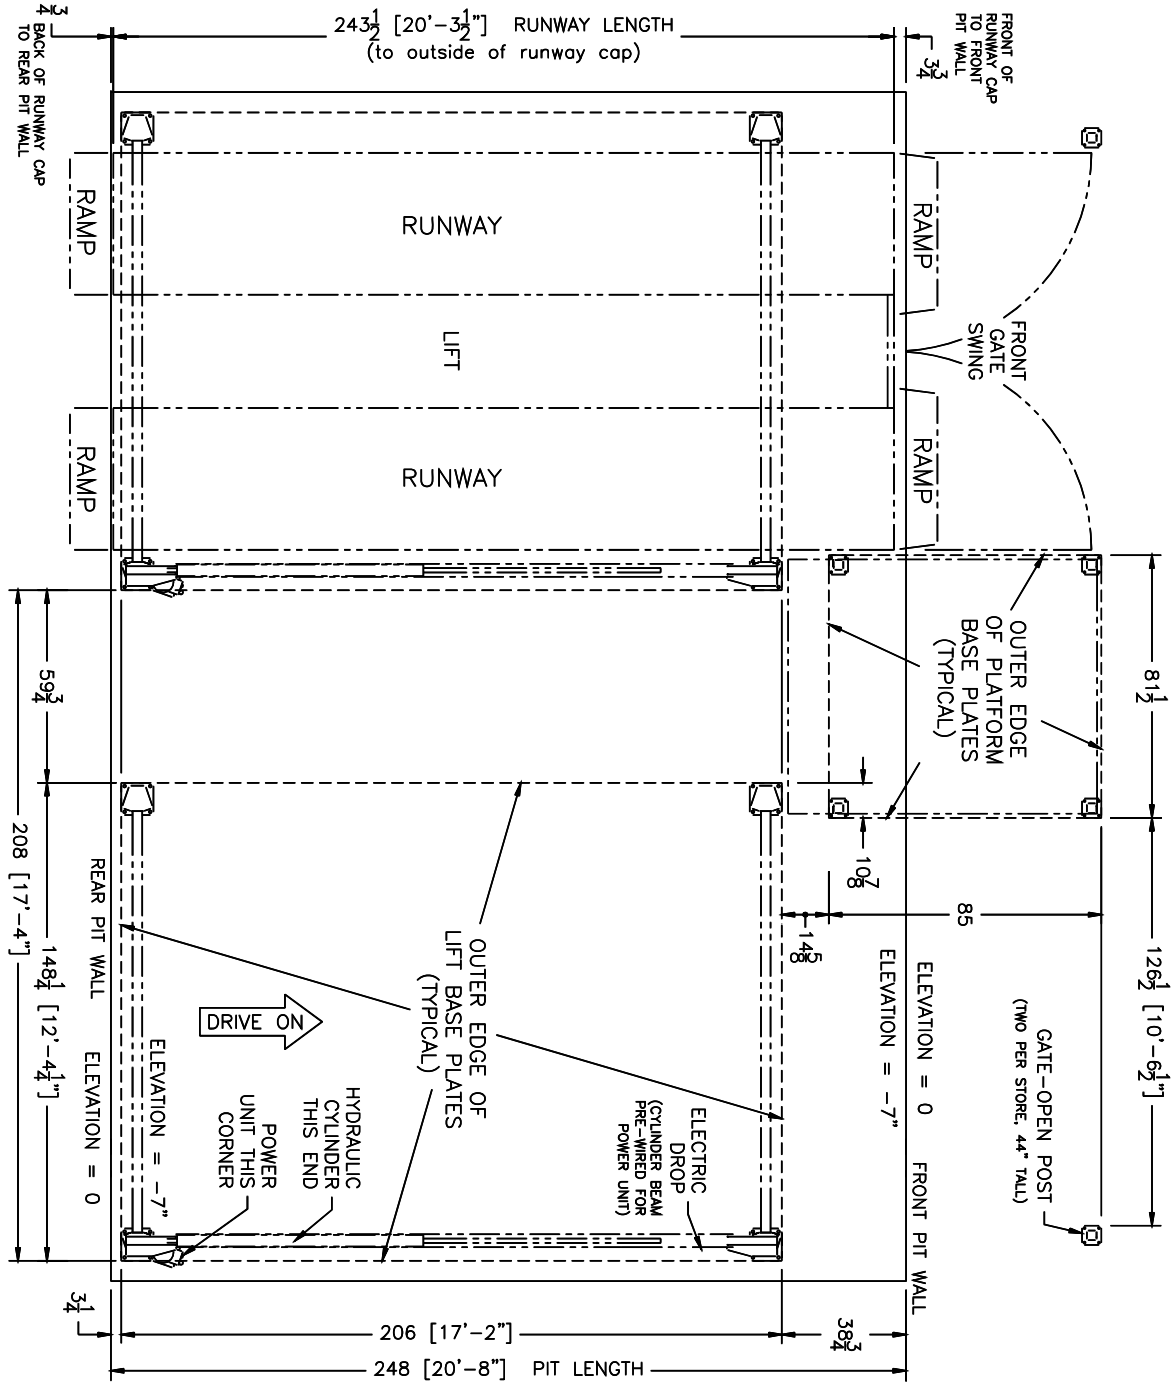

Fig 3A - Service Bay Layout (MDTR2 ONLY)
- MDTR2 installation see Fig 3A
- MDR2 installation see Fig 3A